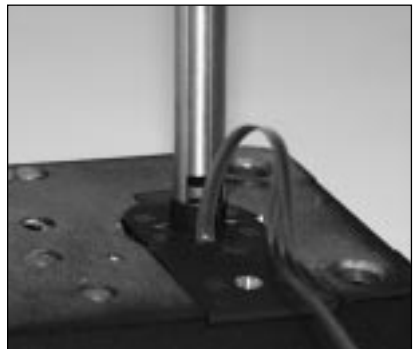

Figure 11 - Seat Inner Tube in Retainer
- Place the inner tube into the lock case tube retainer. Make sure that the cutout in the tube aligns with the cables and allows the tube to seat completely in the tube retainer. (See Figure 11.)